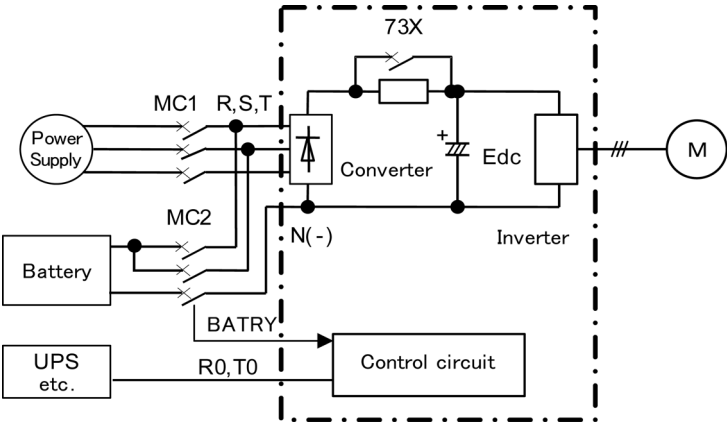

Figure 5.3-7 Connection diagram example
- (1) Terminal function *BATRY/UPS* (data = 59) can be assigned to any digital input terminal.
- (2) As shown in Figure 5.3-7, DC link bus voltage is supplied from the battery to the main circuit (L1/R-L3/T or L2/S-L3/T).
- (3) The specified voltage (sinusoidal waveform or DC voltage) is input to auxiliary power terminal (R0-T0).
- (4) The terminal that *BATRY/UPS* (data = 59) is assigned has to be turned on simultaneously with the MC2.